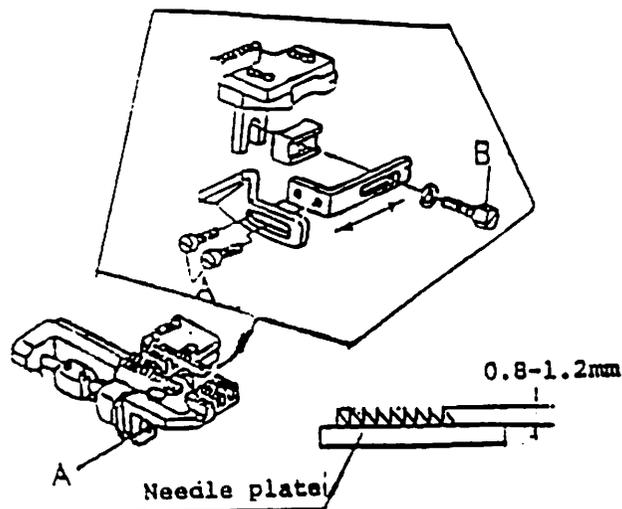

Fig. 6
(9) Height of feed dog (Fig 6)
The standard height of the feed dog is 0.8mm to 1.2mm above the surface of the needle plate when the feed dog is at its highest position. To adjust the height, loosen the screws A and B, and set the heights of the main feed dog and the differential feed dog as shown in g Fig 6.